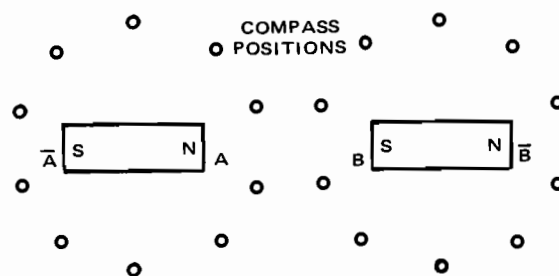

Fig. 6-2-1
3. Position two magnets so that unlike poles are separated by approximately 4 in., as in Fig. 6-2-1.
1. Describe the resulting magnetic fields of Fig. 6-2-1. _____